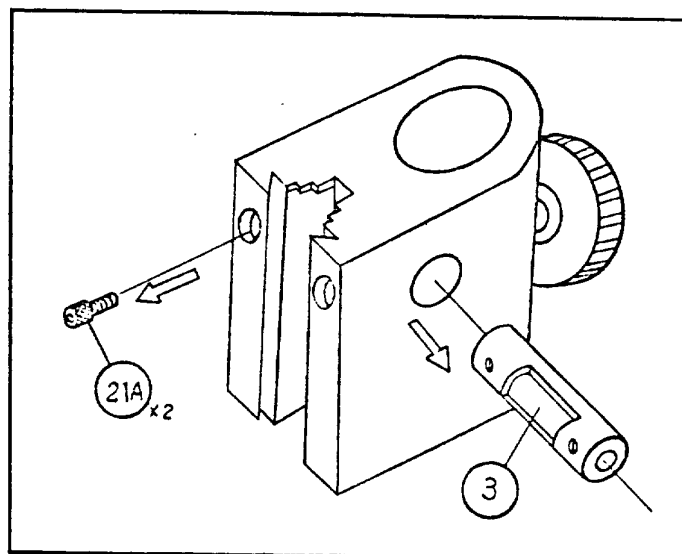

Fig. 69
- 8) Removing the HS bolts (21A)  $\times 2$ , draw out the pinion holder (3) (Fig. 69).